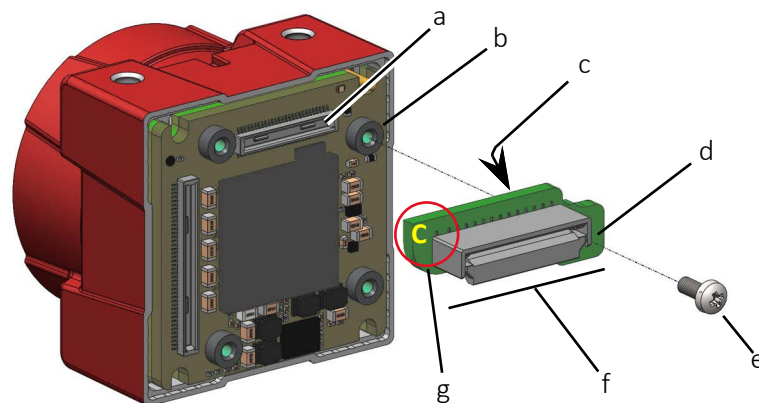

Figure 29: Alvium CSI-2 Flex camera, Add-on Board, and screw
- Connect Alvium CSI-2 Flex Add-on Boards only as shown in Figure 29.
2. Plug the DF40C-50DS-0.4V connector (c) of the Alvium CSI-2 Flex Add-on Board to the Hirose DF40C-50DP-0.4V connector (a) of the camera as shown in Figure 29.